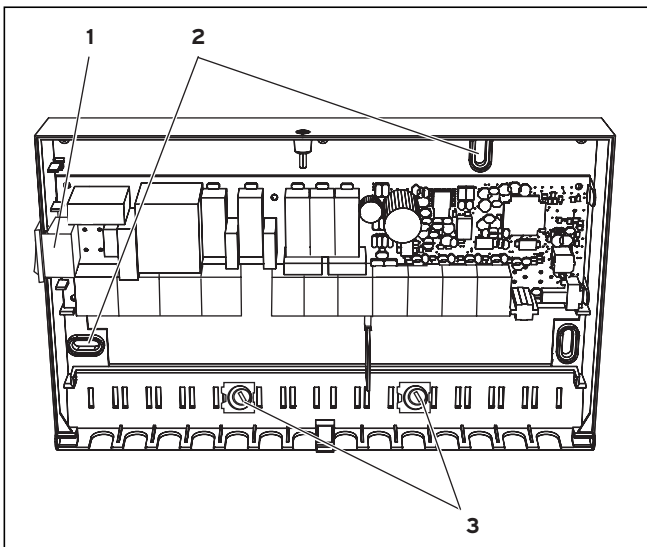

Fig. 5.2 Fitting the VR 68 solar module
- ⇒ Secure all cables using the cable brackets provided (see Fig. 5.2).